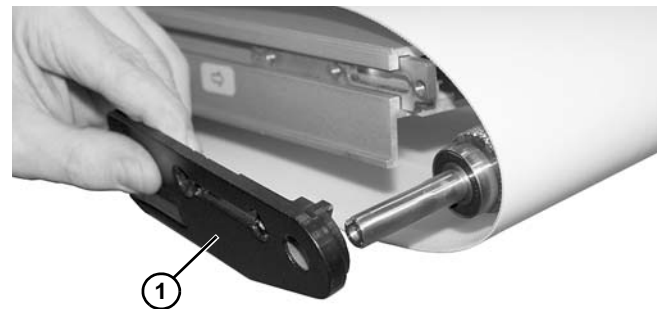

Figure 61
4. Remove the head plate (**Figure 61, item 1**) from the conveyor frame, holding spindle in place.